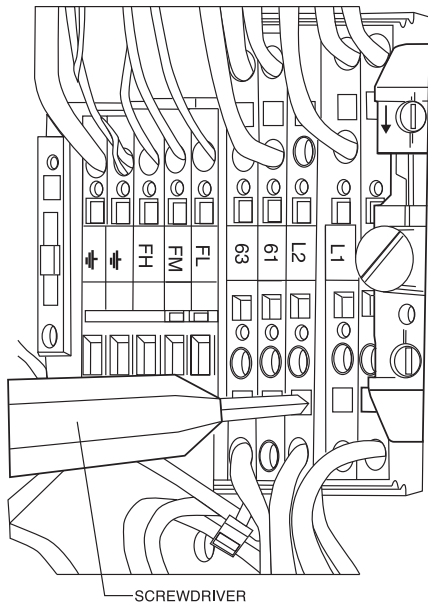

Fig. 53 — Terminal Strip
1. Push a small flat head screwdriver into the square hole on the terminal. Press firmly until the screwdriver hits the back stop and opens the terminal. See Fig. 53.